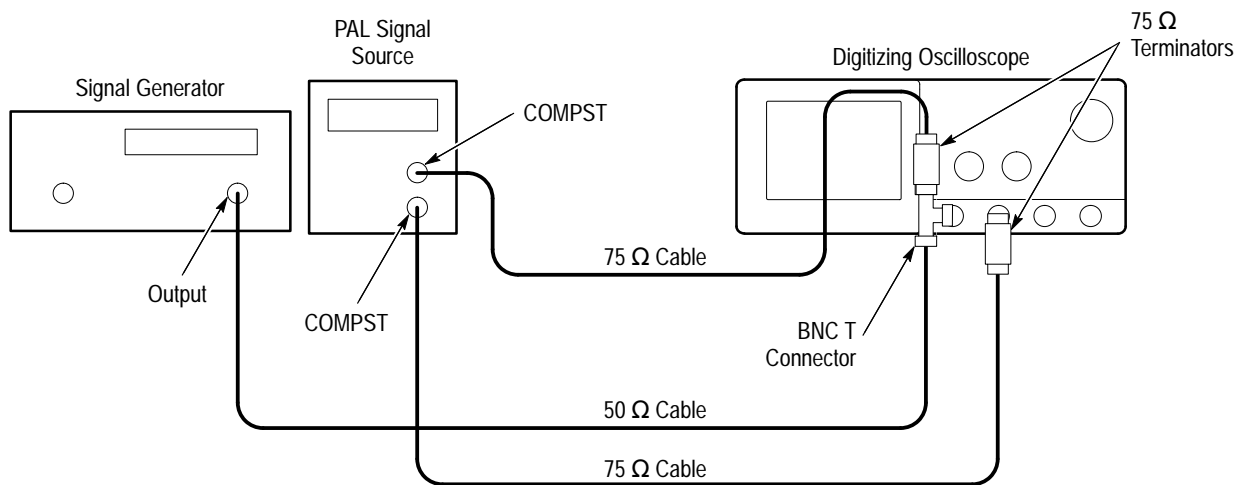

Figure 4–32: Subsequent 60 Hz Rejection Test Hookup
- Connect another composite signal connector of the PAL signal source (labeled **COMPST** on the TSG 121) through a 75  $\Omega$  cable and a 75  $\Omega$  terminator to the CH2 input. See Figure 4–32.
- CONFIRM that the **TRIG'D** LED stays lighted and that the waveform on screen is stable. In other words, be sure the waveform does not move horizontally or vertically. Also, confirm that the waveform on the screen has one positive pulse and a number of negative pulses. See Figure 4–33.